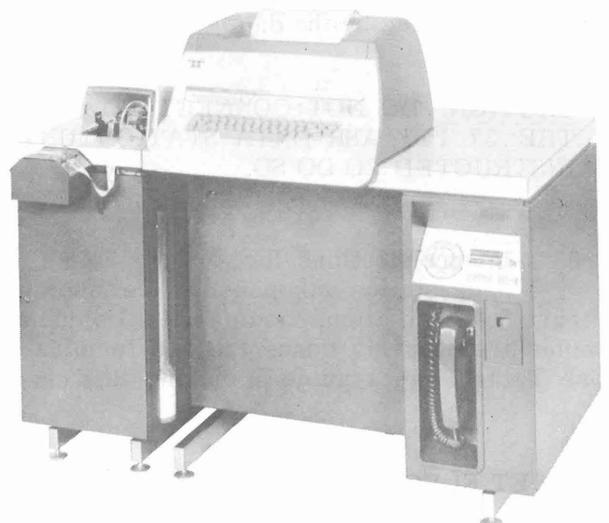

Figure 1 - 37 TTY ASR Data Station
1.01 This section describes the procedures to be followed when installing a Model 37 Automatic Send-Receive (ASR) Teletypewriter (TTY) Data Station for DATA-PHONE service (Figure 1). The station operates at 150 words per minute and uses Data Set 103H1 and 37 TTY ASR Set which conforms to the EIA RS-232-B Interface Standard.